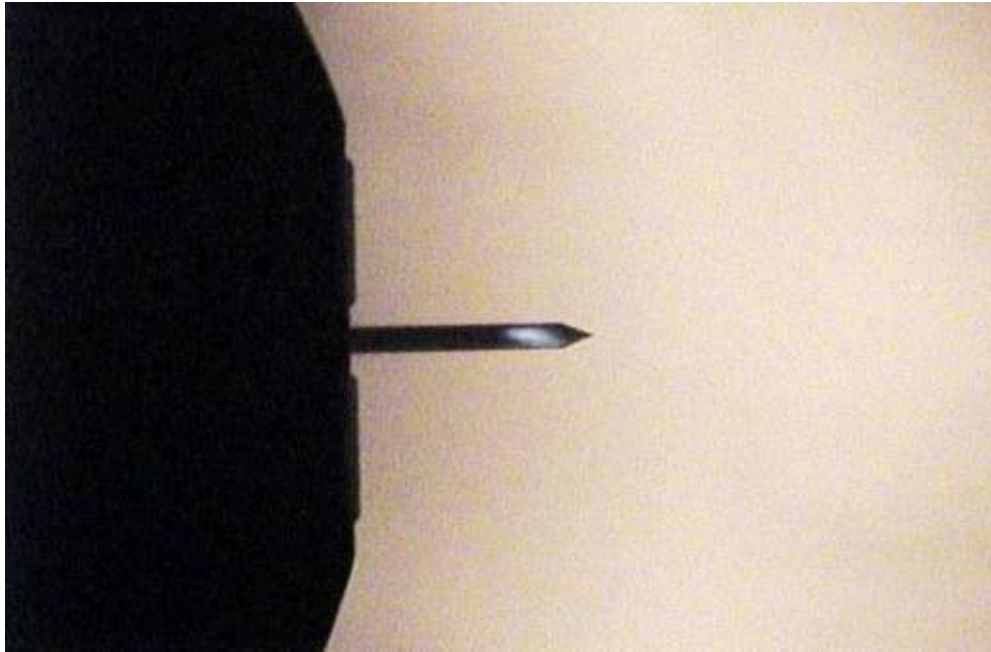

Figure 5.19 Focus on the Cantilever
4. Click the video button on the Igor status bar to open the Video window (See Figure 5.19).